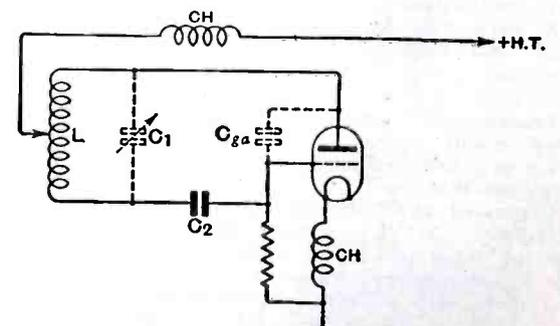
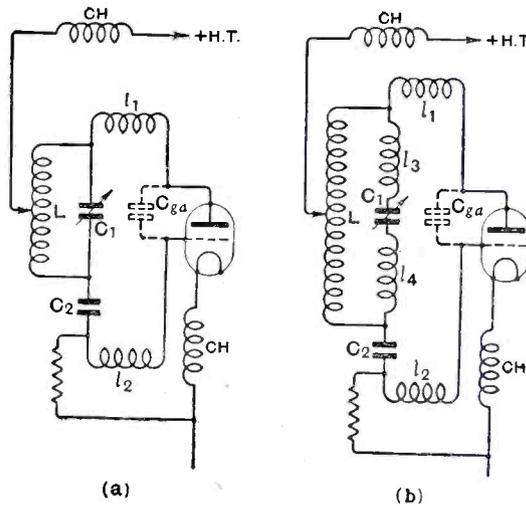

Fig. 1.—The first oscillator circuit tried by the author.
Fig. 2—Two of the oscillator circuits discussed by the author in the text but discarded for reasons mentioned in the article.
we simply wish to work on a single frequency, and if the circuit capacity consists only of the grid-anode capacity of the valve, *i.e.*, if the capacity " C_1 " in Fig. 1 is omitted. The capacity " C_2 " is not important so long as it is much larger than " C_{ga} ."
Thus, when we connect " C_1 " in Fig. 1, to work as a tuning control, whilst we fondly imagine that we are still using (1) the circuit shown in Fig. 1 (with " C_1 " added) we are in reality using one or the other of the circuits shown in Fig. 2 (a) or (b). Here " l_1 " and " l_2 " represent the inductances formed by the internal connections to the electrodes of the valve, and " l_3 " and " l_4 " the inductances formed by the leads used to connect " C_1 " (including the inductance of " C_1 " itself, which may be by no means negligible, at these frequencies). This arrangement leads to all sorts of troubles (including that of sudden changes of frequency as " C_1 " is varied).